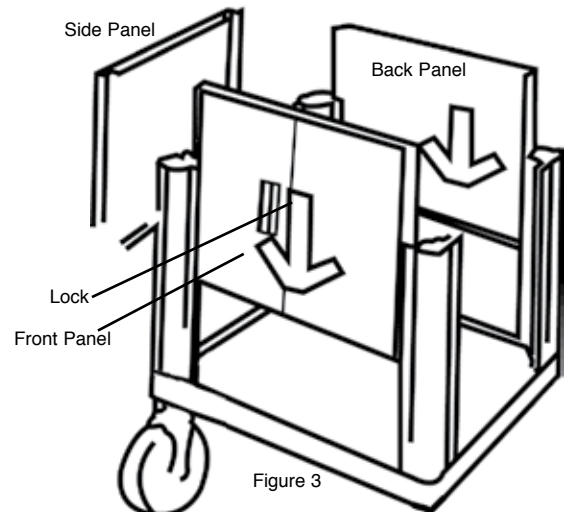

Figure 3
STEP 3: Locate back panel and slide down into grooves of the 2 back legs. Take the two side panels, slide into place. Take front panel and slide into place with the lock positioned as shown. (FIGURE 3)